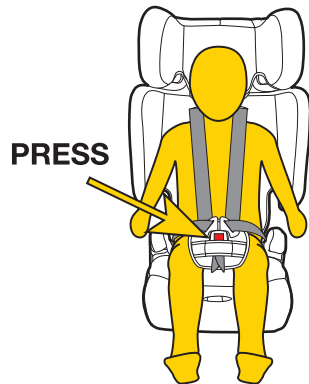

Figure 1
Step 1: To release your child from the restraint simply press the harness buckle and carefully remove your child from the restraint (refer Figure 1).